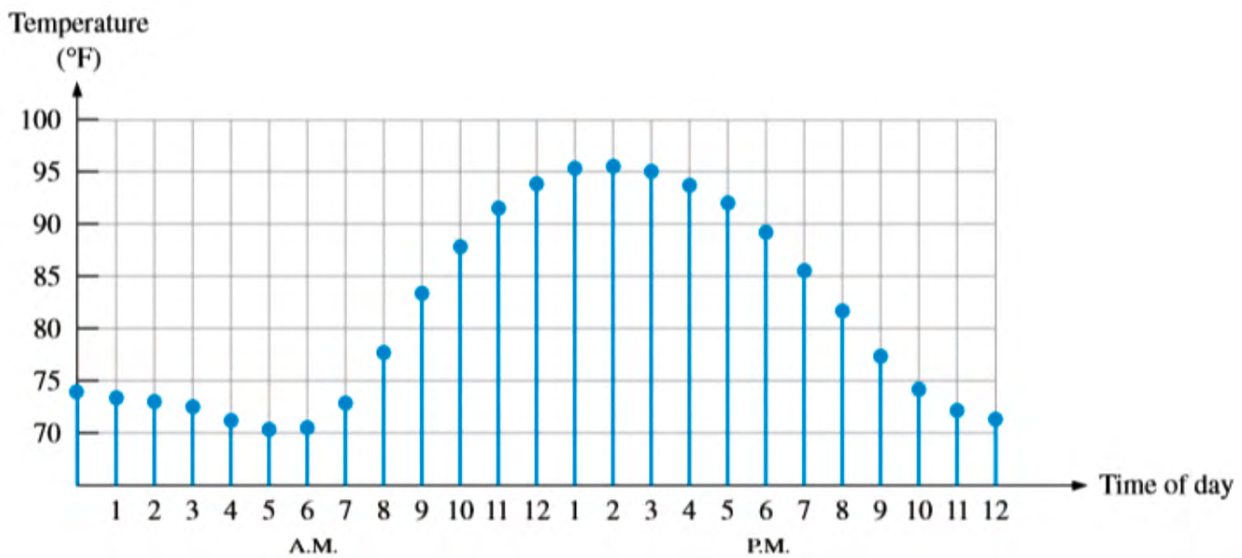

Figure 7.3: A Discrete-time Graph showing Temperature Readings
specific times of the day, not continuously, say every hour. This new discrete-time signal is presented in Figure 7.3.
In Figure 7.3, it is obvious that we have no temperature readings between the hours. This has reduced our temperature readings from an infinite number of readings to just about 24 specific hourly readings. However, it is important to note that we still have captured exactly what the temperature readings were every hour, be it 70.55°C at 6 AM or 89.70°C at 6 PM, as recorded in Table 7.1 below.
The quantisation function in this case will be a simple round down or floor function/method which simply rounds the value down to the nearest accepted value. So, in Figure 7.3 where the temperature values were to be rounded down to the nearest whole number divisible by five (5), the quantisation function will do exactly so. This can be further expressed as: